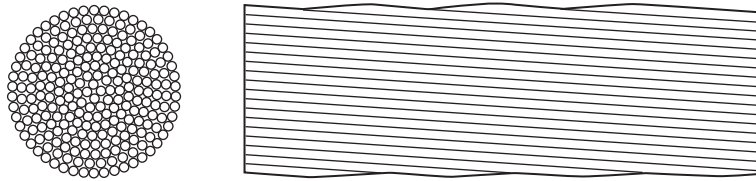

Fig. 10.4
- (vi) The suspension cables use a large number of Ø5mm steel wires spun or twisted together to give a Ø680mm cable as shown in Fig. 10.4.